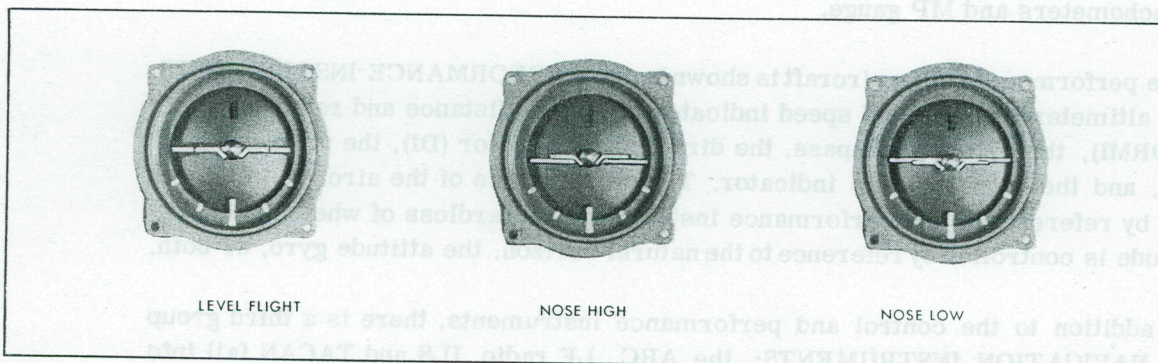

Figure 1. Indications of Attitude by Attitude Gyro
(1) Proper control of the aircraft's attitude depends on your ability to hold a constant attitude accurately, to change the attitude smoothly by a definite amount, and to know when and by how much to change the attitude. You can maintain or change the aircraft's attitude by referring to the attitude indicator. This instrument displays the position and movement of a miniature aircraft symbol in relation to a horizon bar, and presents a pictorial indication of the aircraft's attitude. Any change in attitude shows an immediate, corresponding change in the attitude of the miniature aircraft in relation to the horizon bar. Thus any changes of attitude are immediately indicated on the instrument, and appropriate action can be taken to control them.
(2) **PITCH CONTROL** - Definite pitch attitude changes are made by changing the "pitch attitude" of the miniature aircraft by definite fractions or multiples of the thickness of the horizon bar (Figure 1). Generally these corrections are referred to as "bar widths".